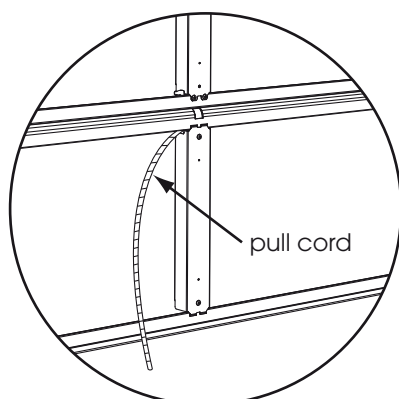

Fig: 3.8.3
- h) pass the cord through the white hinge pin on the bottom panel. Fig 3.8.3.